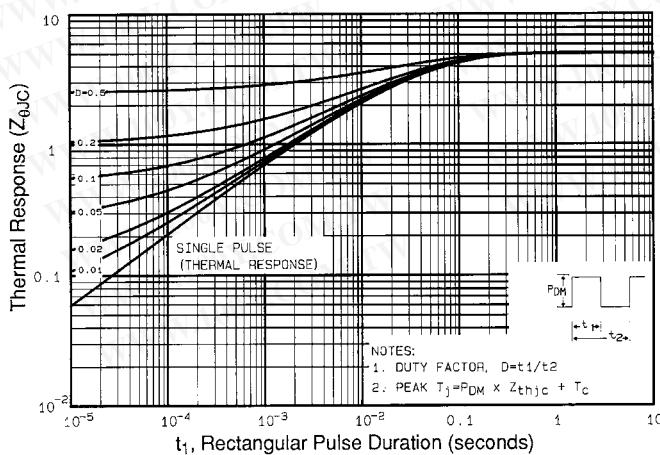

Fig 11. Maximum Effective Transient Thermal Impedance, Junction-to-Case
① Repetitive rating; pulse width limited by max. junction temperature (See Figure 11)
③  $I_{SD}\leq-1.9\text{A}$ ,  $di/dt\leq70\text{A}/\mu\text{s}$ ,  $V_{DD}\leq V_{(\text{BR})\text{DSS}}$ ,  $T_J\leq150^\circ\text{C}$
②  $V_{DD}=-50V$ , starting  $T_J=25^\circ\text{C}$ ,  $L=124\text{mH}$